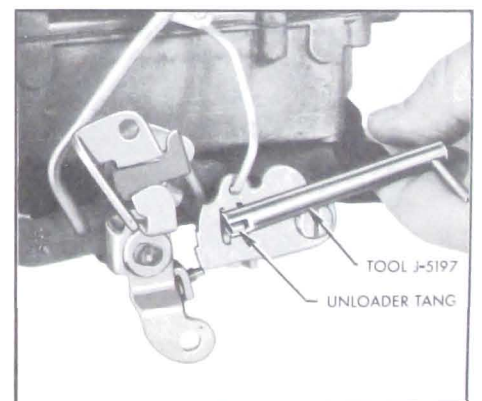

Figure 3-55—Adjusting Choke Unloader
4. If choke valve clearance is not correct, bend unloader tang as required to obtain specified clearance using Tool J-5197. See Figure 3-55.